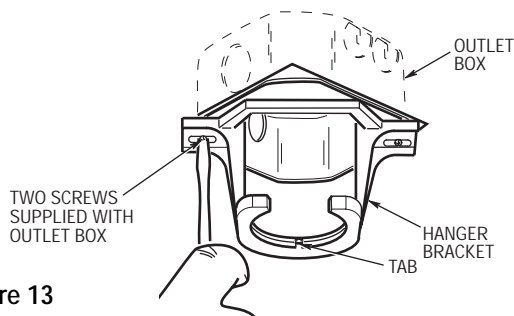
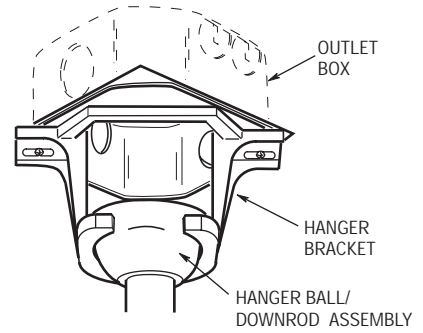

Figure 13
Figure 14
- 18. Securely attach the hanger bracket to the outlet box using the two screws supplied with the outlet box (Figure 13).
- 19. Carefully lift the fan and seat the hanger ball/downrod assembly on the hanger bracket that was just attached to the outlet box (Figure 14). Be sure the groove in the ball is lined up with tab on the hanger bracket (Figure 13).